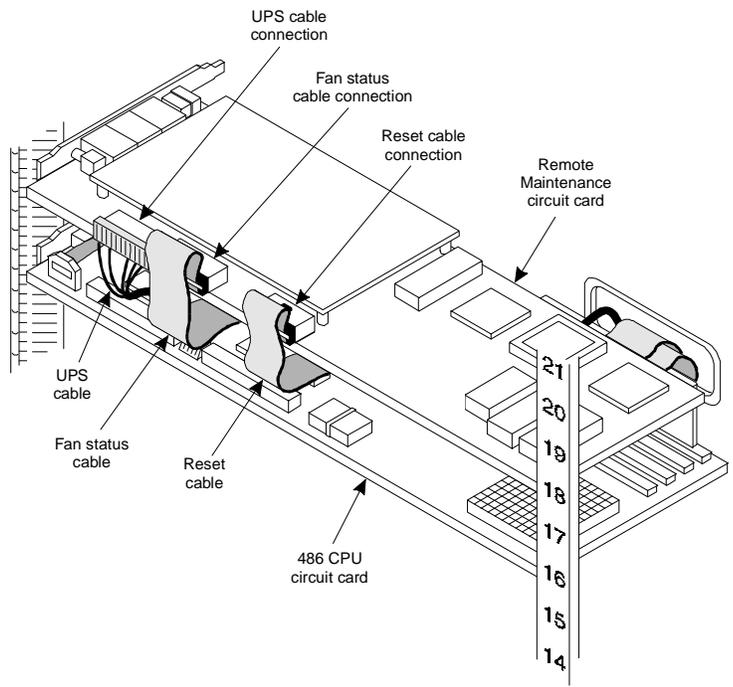

Figure 9-19. Remote Maintenance Circuit Card Installed and Cabled in the MAP/100
8. Attach the reset, fan, and UPS cables to the card as shown in Figure 9-19.